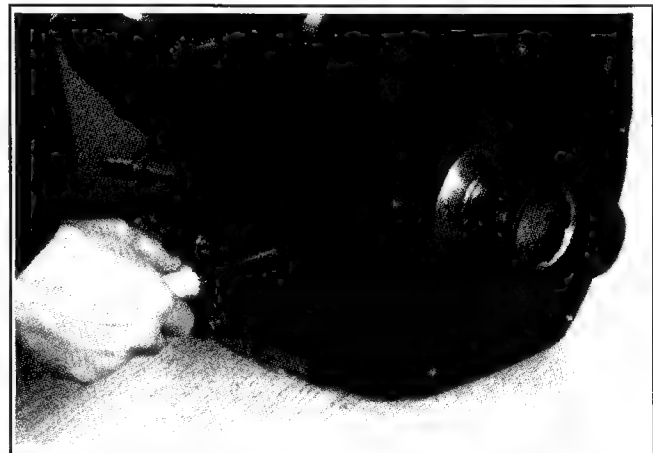

Figure 11-51. Securing Blower Housing Screws.
2. Secure the blower housing to crankcase. The two shorter screws are installed at the top positions, and the four longer screws go in the middle and bottom positions. Leave screws slightly loose to shift housing. See Figure 11-51.